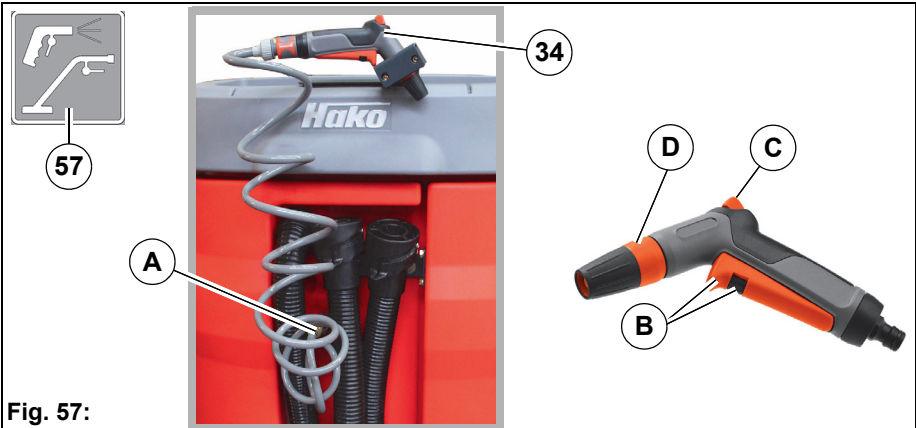

Fig. 57:
1. Connect the hose to the water connection of the machine **Fig. 57-A**.